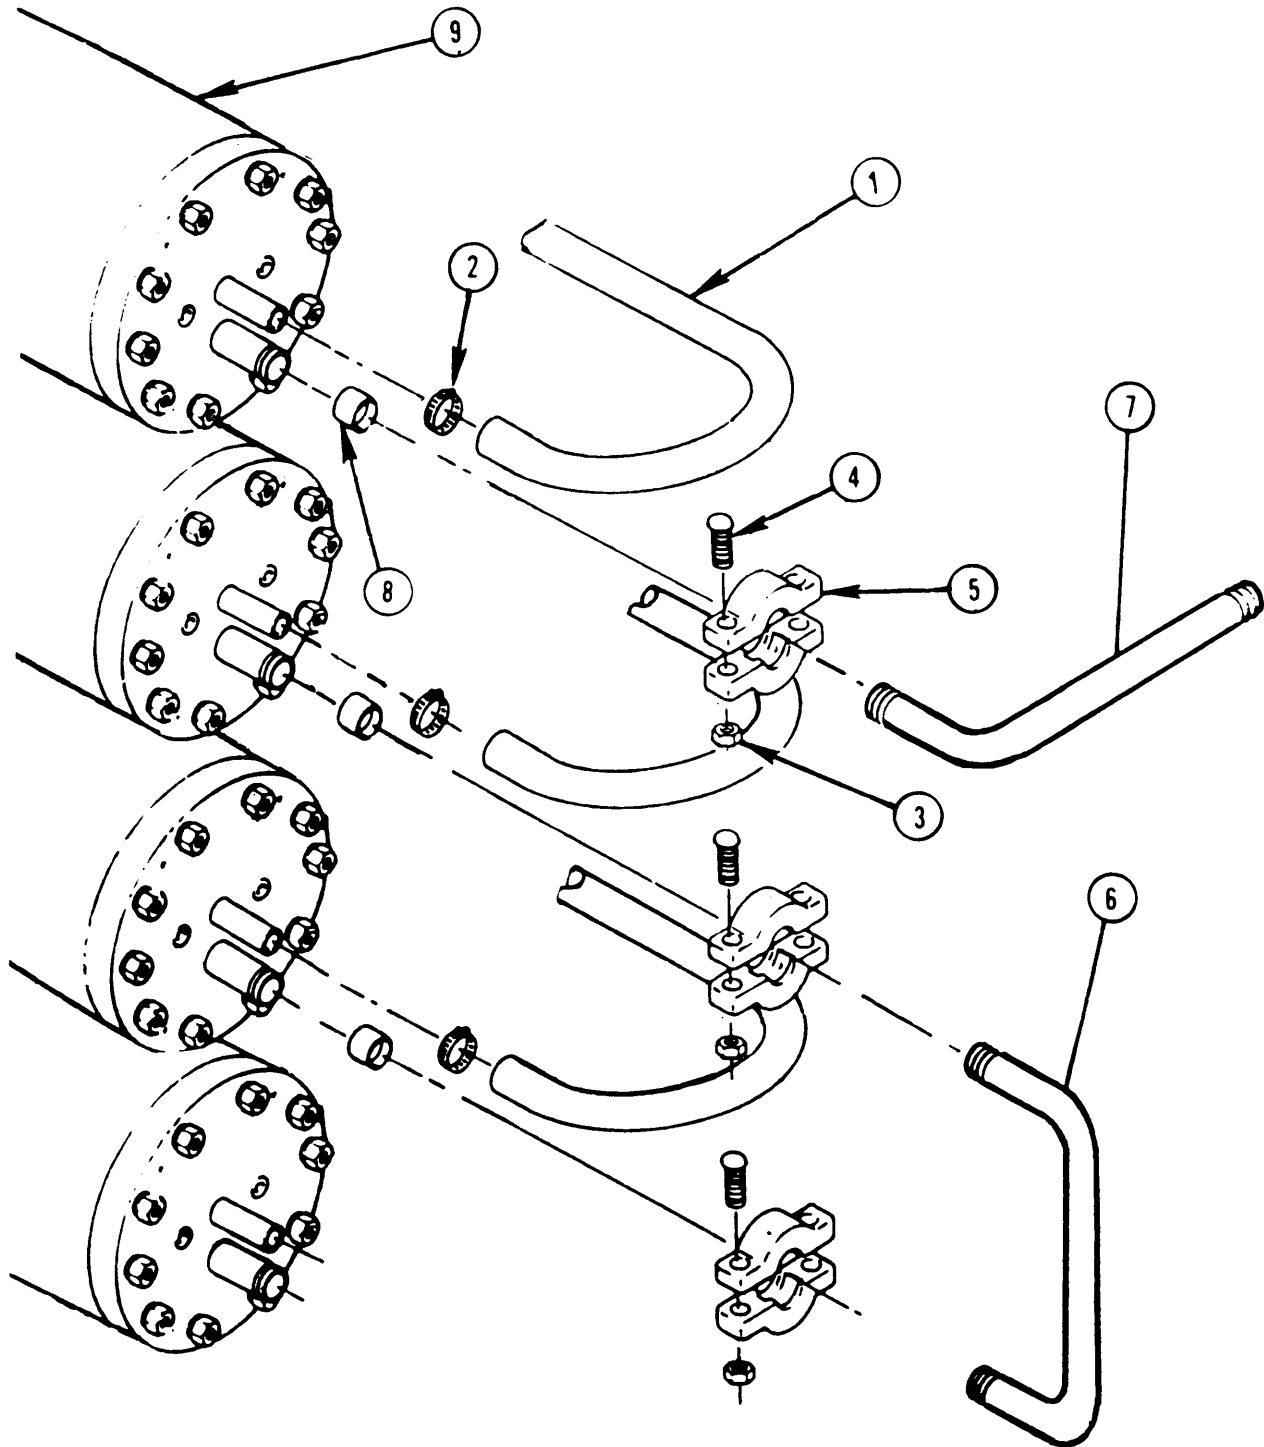
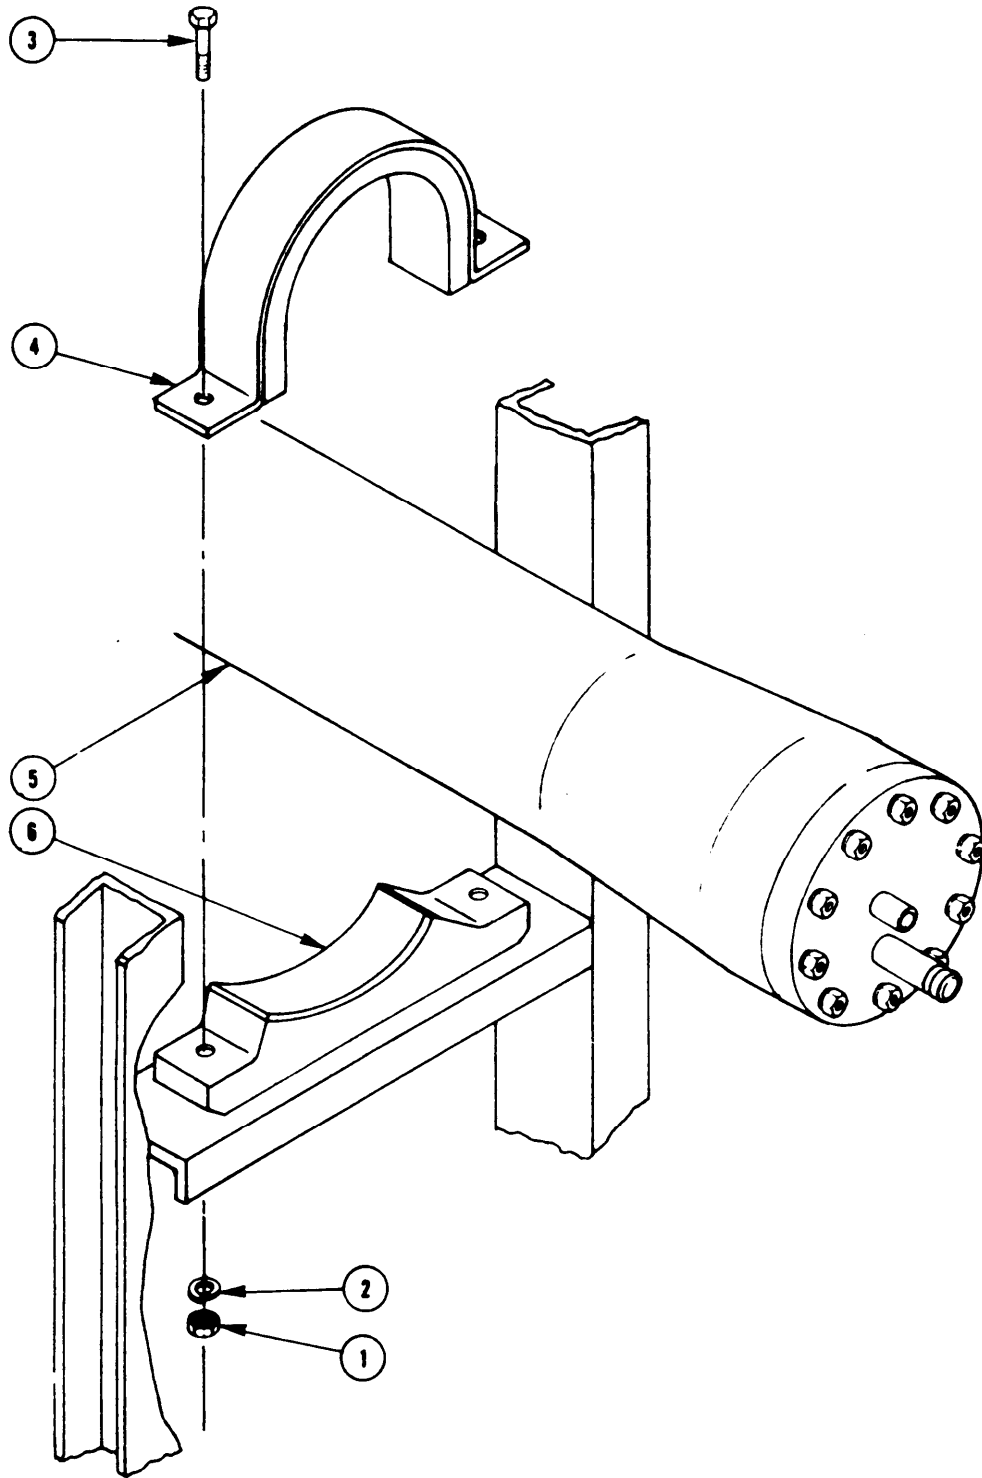

Figure 2-84. R.O. Vessel Piping (USMC)
Figure 2-85. R.O. Vessel
c. R.O. Vessel Piping Removal. (Figure 2-84) (USMC)
- (1) Open all vents and drains of R.O. vessel and make sure R.O. vessels are completely drained.
- (2) On output end of R.O. vessel, loosen hose clamp (2) and remove plastic tube (1) from R.O. vessel (9). Discard hose clamp (2).
- (3) Remove two nuts (3) from bolts (4).
- (4) Remove two bolts (4) from pipe clamp (5).
- (5) Remove two sections of pipe clamp (5) and rubber grommet (8) from coupling (7).
- (6) From middle two pressure vessels, repeat steps (2), (3), and (4).
- (7) Remove two sections of pipe clamp (5) and rubber grommet (8) from coupling (6).
- (8) Remove coupling (6) from R.O. vessel (9).
- (9) Repeat steps (3) through (7) to remove pipe on input end of R.O. vessel.
d. R.O. Vessel Removal. (Figure 2-85)
- (1) Remove four nuts (1) and four lockwashers (2) from four bolts (3) at both ends.
- (2) Remove four bolts (3) from brackets (4) at both ends.
- (3) Remove bracket (4) from R.O. vessel (5) and ROWPU frame channel (6).
- (4) Remove R.O. vessel (5) from ROWPU frame channel (6).
j. R.O. Vessel Installation. (Figure 2-85)
- (5) Slide hose clamp (2) over plastic tubing (1).
- (6) Slide hose (1) over pipe on R.O. vessel (9).
- (7) Tighten clamp (2) over pipe on R.O. vessel (9).
- (8) Tighten two nuts (3).
- (9) Check all fittings for leaks.
l. R.O. Vessel Piping Installation. (Figure 2-84) (USMC)
- (1) Place two sections of pipe clamps (5) and slide rubber grommet (8) over coupling (7) and R.O. vessel (9).
- (2) Insert two bolts (4) through pipe clamp (5).
- (3) Install two nuts (3) on bolts (4).
- (4) Place two sections of pipe clamp (5) with rubber grommet (8) over coupling (6) on middle two pressure vessels (9).
- (5) Insert two bolts through pipe clamps (5).
- (6) Install two nuts (3) on bolts (4).